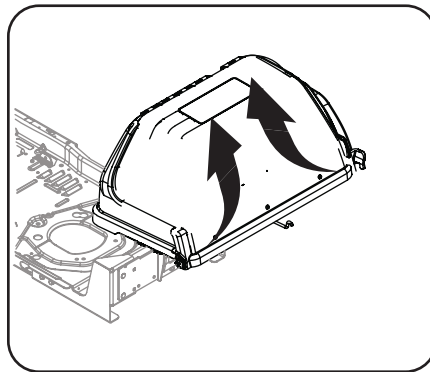

Figure 4-10
6. Open the bagger cover by pushing in on the tabs and lifting the upper grass catcher cover. See Figure 4-10.